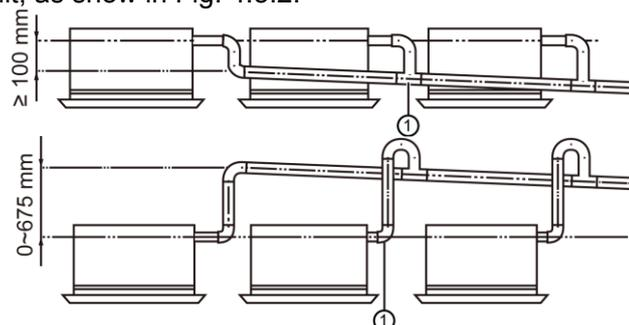

Fig 4.3.2
- (1) Drainage pipe should have the same diameter or larger diameter than the connection pipes(PVC pipe, outside diameter 25mm, thickness ≥ 1.5 mm).
- (2) Keep drainage pipe short and sloping downwards at a gradient of at least 1% for preventing forming air bubbles.
- (3) Insert the drainage hose into drain socket and then tighten the metal clamp securely.
- (4) Warp the sealing pad over drainage hose and metal clamp for heat insulation.
- (5) Make sure to perform insulation work for all drainage hoses in the room in order to prevent any possible water dropping due to dew condensation.
- (6) Apply the suitable diameter for converging drainage pipe according to the operating capacity of the unit, as show in Fig. 4.3.2.